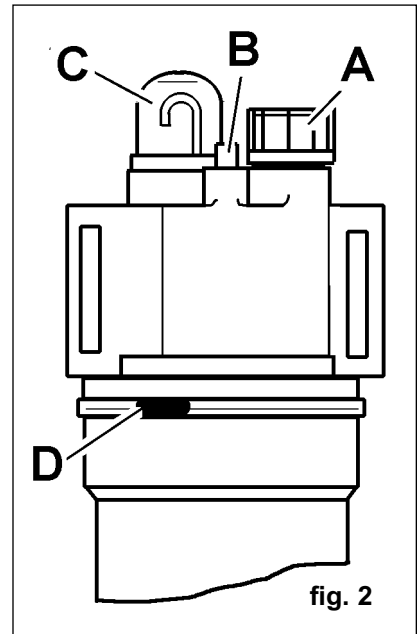

fig. 2
- 4.3. Lubricator - Remove filler plug (fig.2.A) and fill bowl with air tool oil. This can be done with air line pressurised.